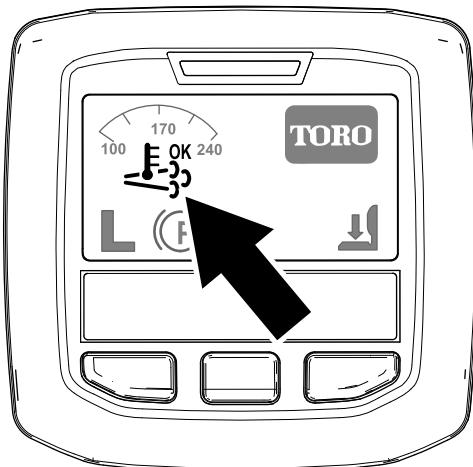

Figure 34
- The assist/reset-regeneration icon displays in the InfoCenter (Figure 34).